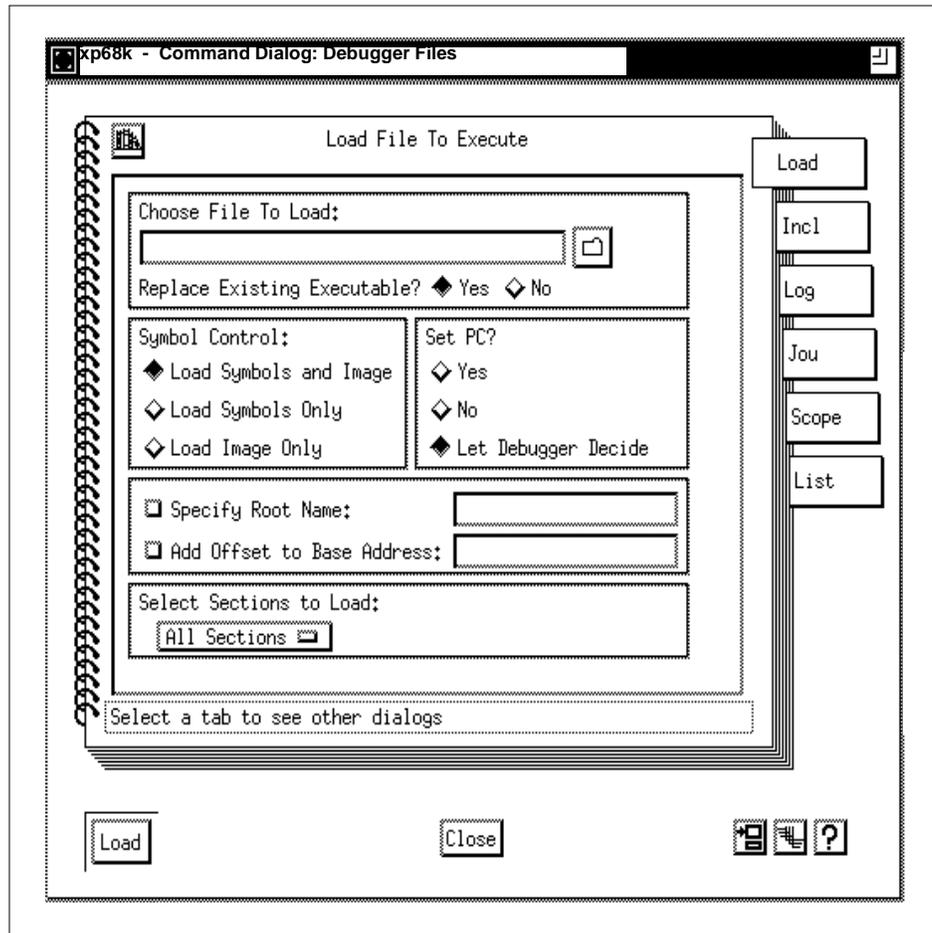

Figure 4-9 Command Dialog Window
2. Select Load in the File menu. This opens the **Command Dialog** window, shown in Figure 4-9.
7. Click **Load** in the Command Dialog window (shown in Figure 4-9 on page 4-15). The downloading process begins. It can last several minutes. The display shows that downloading is taking place by showing “Reading” in the Status field. The Command window shows processing of the **load** command.